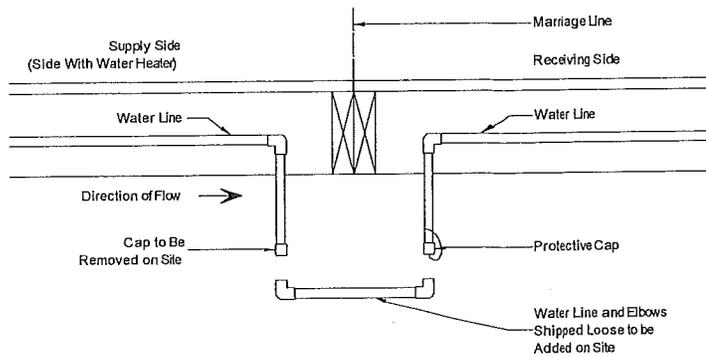

Figure 46. Water line crossover through bottom board
2. **Connect pipes.** Connect threaded water lines using flexible pipe or a rigid connector line (if provided) and connector fittings (do not use lubricants or sealants) (Figure 46).